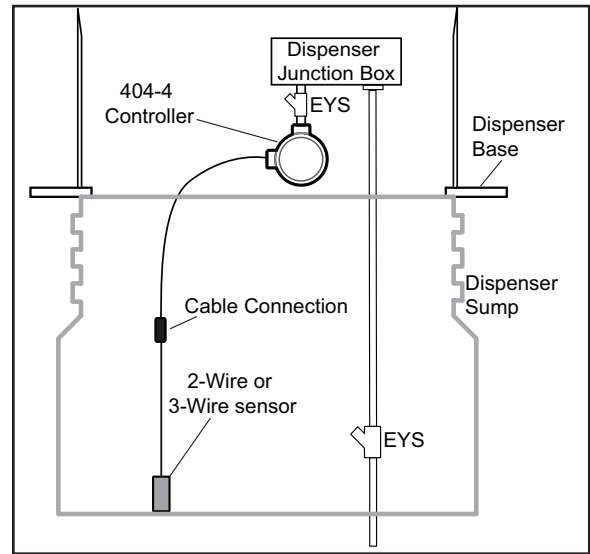

Figure 1: Typical System Installation in a Dispenser Sump
3. Determine where to best locate the 404-4 controller and how best to plumb conduit from the dispenser spare conduit hub to the 404-4 controller. The 404-4 controller must be located so that regular servicing of the dispenser (such as changing of fuel filters) will not be impeded. The 404-4 controller can be located in the dispenser hazardous area or suspended down below the dispenser in the dispenser sump as room dictates. Refer to figure 1.